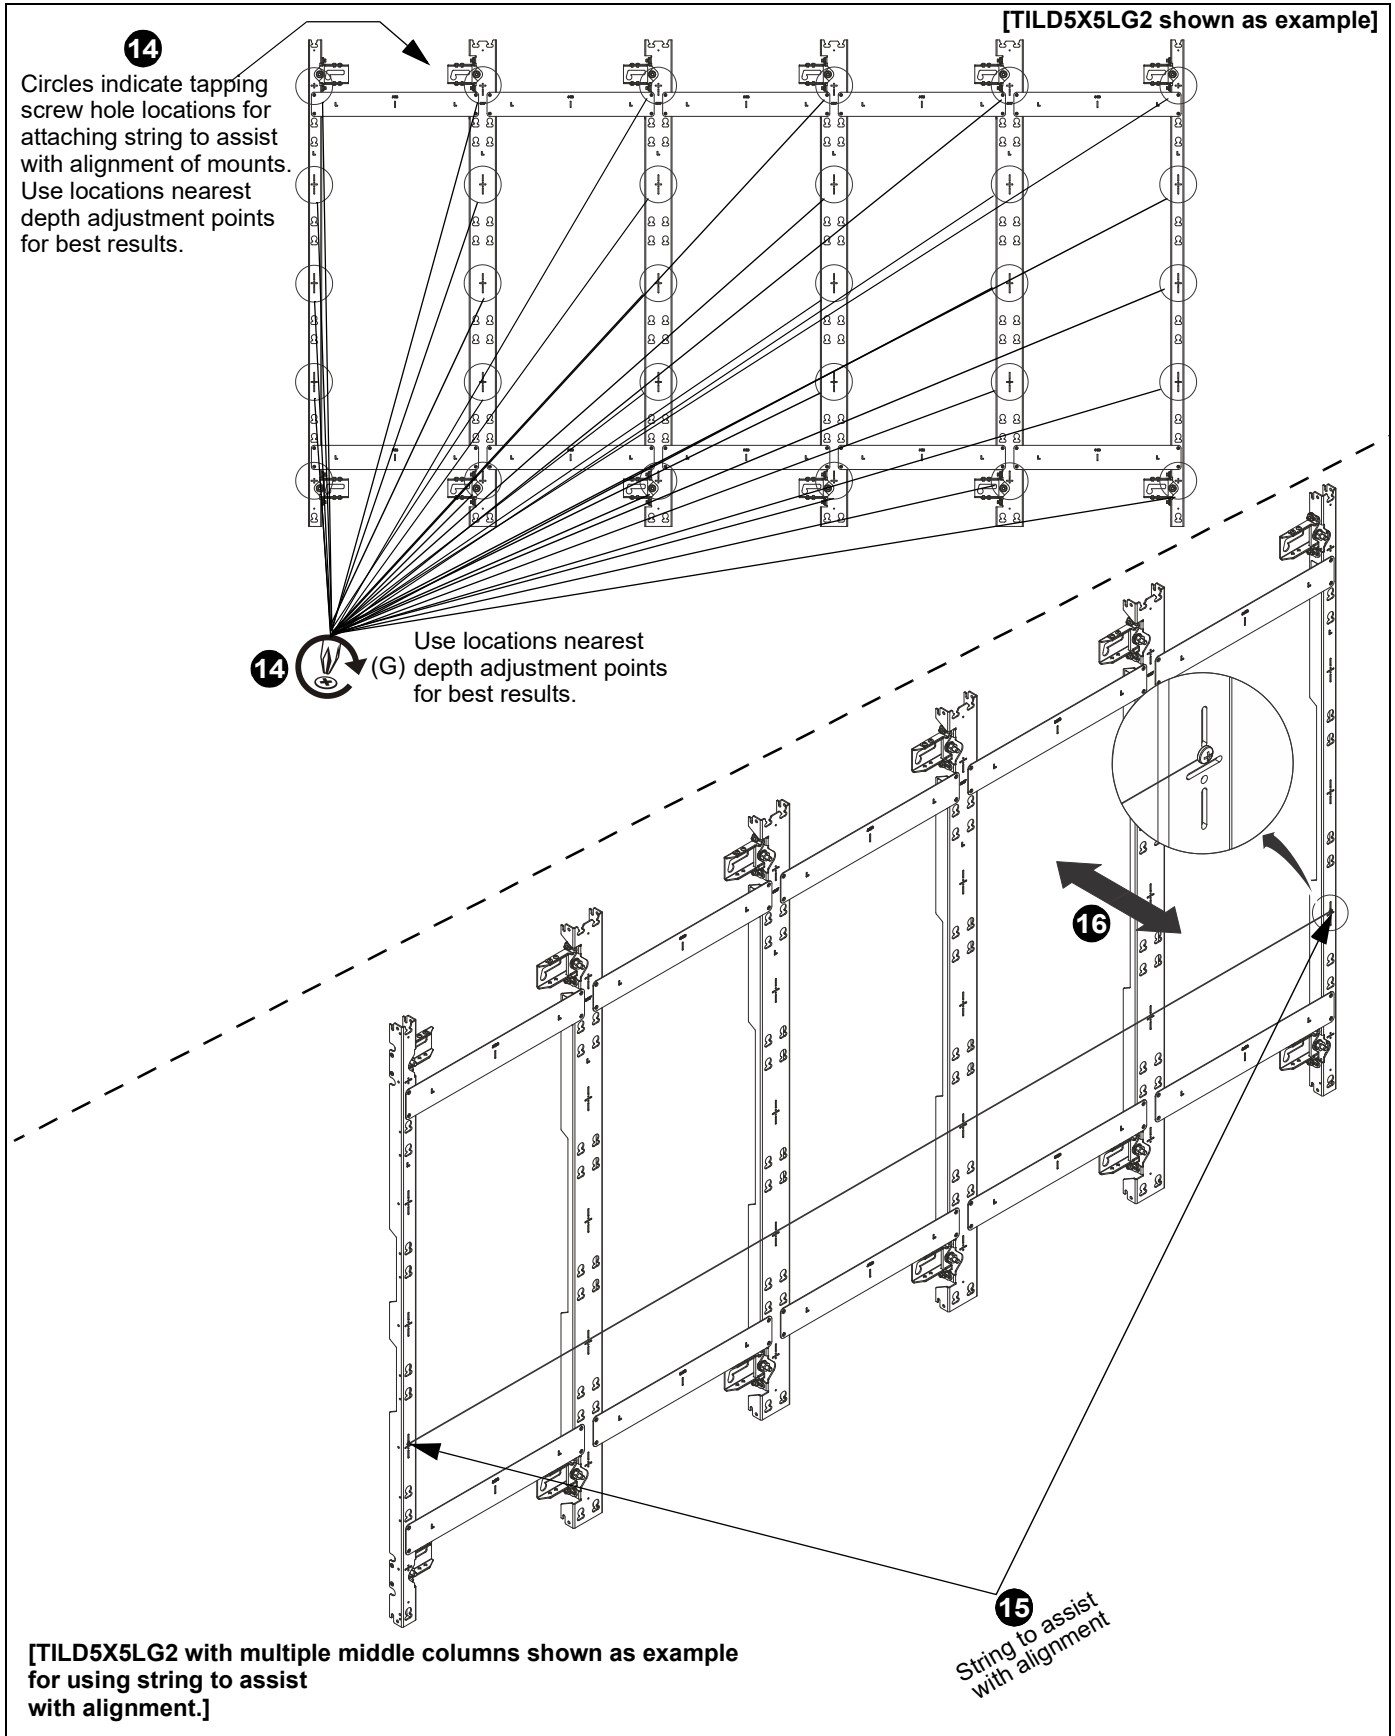

Figure 18
13. Using a drill driver makes installation of the tapping screws (G) easier.
14. Install the remaining #10-24 x 1" self-tapping screws (G) on the mount, as necessary, to assist in centering the LED housings. (See Figure 18)
15. Run a string between the self-tapping screws installed in **Step 12** to assist with alignment across long sections of mounts. (See Figure 18)